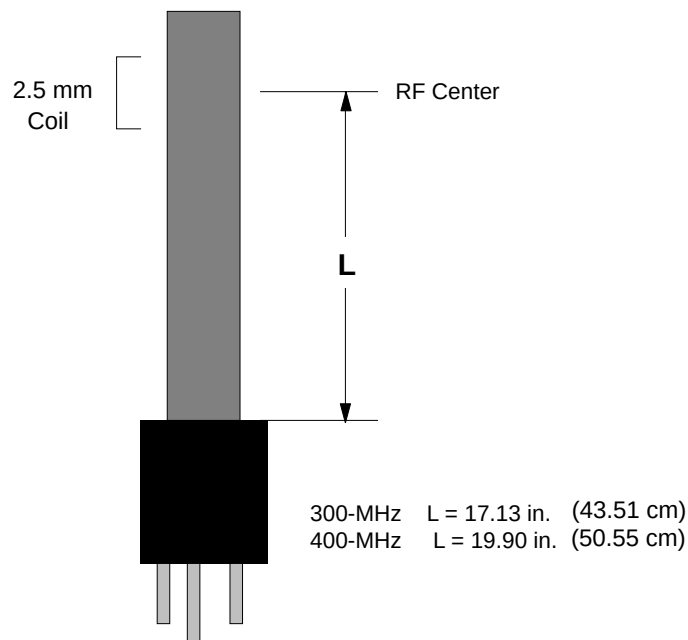

Figure 50. RF Coil Center of Microimaging Probe
- c. Position the desired sample location with the rf coil center line (marked on the gauge and shown in Figure 50).